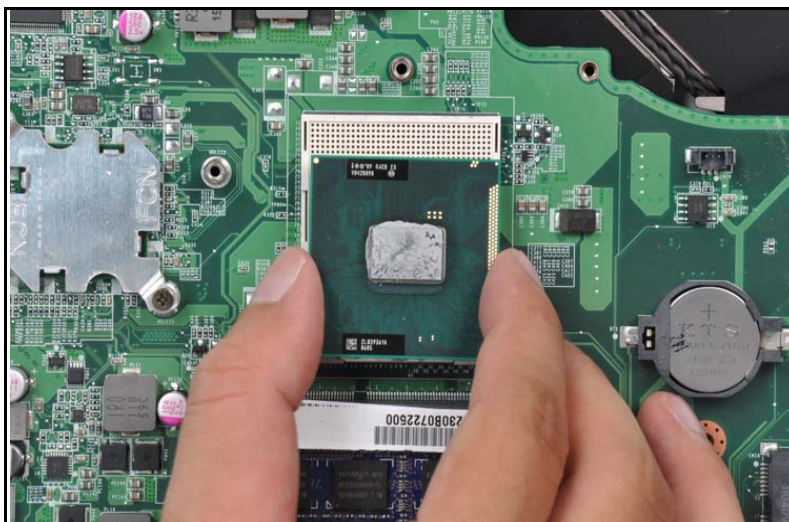

Figure 3-30. CPU Removal
2. Carefully lift the CPU clear of the socket (Figure 3-30).